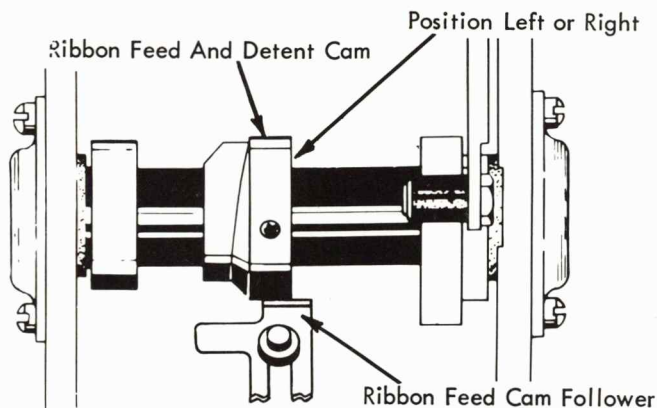
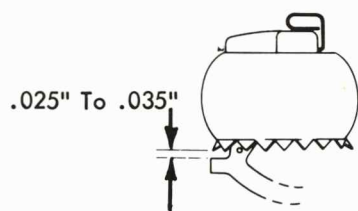

FIGURE 57. Detent Cam Adjustment
FIGURE 58. Skirt Clearance
- a. With the cycle shaft at rest and the typehead manually held in a tilt two position, adjust the ribbon feed and detent cam left or right on the print sleeve (Fig. 57) so that the rotate detent will clear the detent teeth on the typehead skirt by .025" to .035" (Fig. 58).